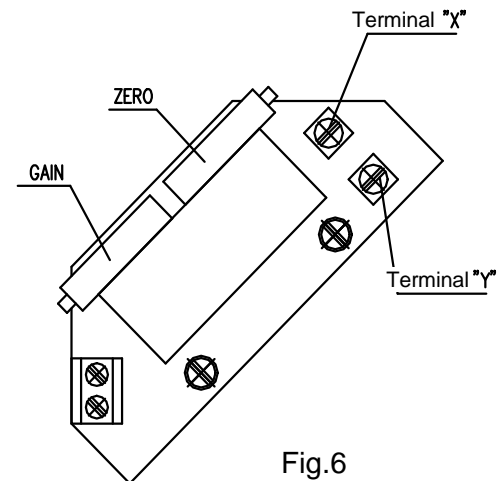

Fig.6
4.4.1 EPV – the 2-wire version (Fig. 6,6a)
- Adjust the resistive transmitter according to the previous chapter. The resistance is to be metered on the terminals X-Y (Fig. 6,6a). The used transmitter resistance is 100 Ω .
- Adjust the resistive transmitter according to the previous chapter. The resistance is to be metered on the terminals X-Y (Fig. 6,6a).